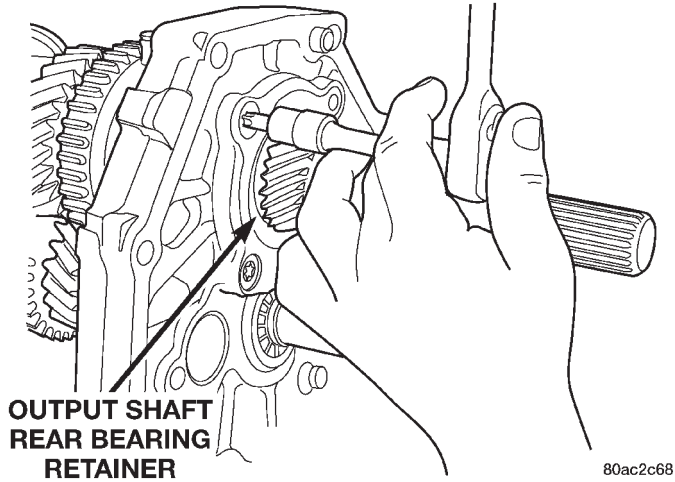

Fig. 58 Remove Output Shaft Rear Bearing Retainer
(11) Remove bolts holding output shaft rear bearing retainer to the intermediate plate and remove retainer (Fig. 58).